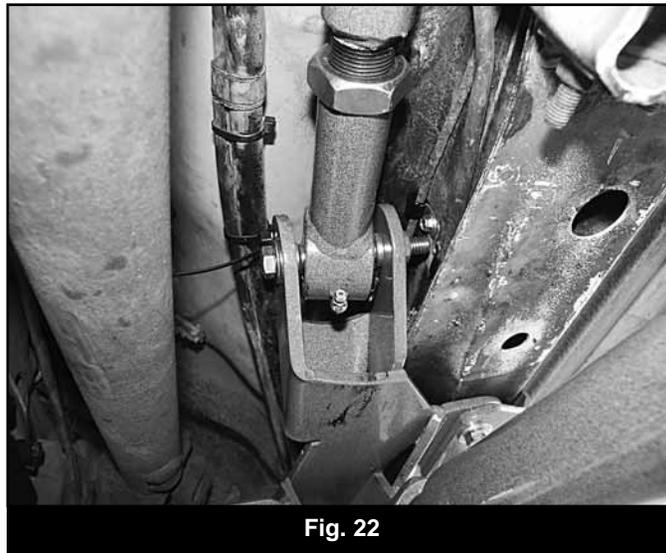

Fig. 22
59. Install the new upper control arms into the new upper control arm pockets in the crossmember (Fig 22). Fasten the arms with 7/16" x 3-1/2" bolts and 7/16" SAE washers (BP 715) into the welded nut on the crossmember. Use Loctite® on the bolt threads.